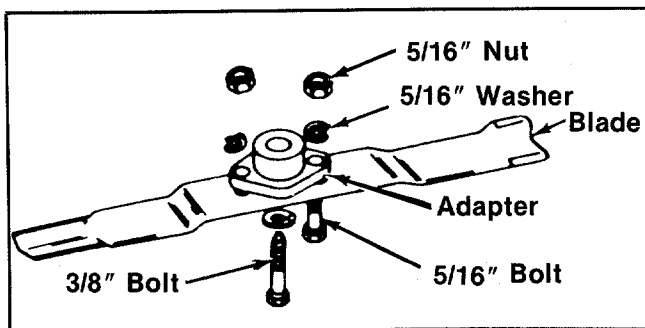

FIGURE 20. BLADE REMOVAL
1. Remove the large bolt and lock washer which holds the blade and adapter to the blade spindle. See figure 20.
3. If the blade or blade adapter needs replacing, remove the two small bolts, lock washers and nuts which hold the blade to the adapter. See figure 20.